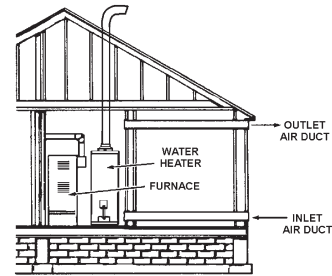

FIGURE 9.
3. When communicating with the outdoors through horizontal ducts, each opening shall have a minimum free area of 1 square inch per 2,000 Btu per hour ($11 \text{ cm}^2/\text{kW}$) of total input rating of all equipment in the enclosure, see Figure 9.
4. When ducts are used, they shall be of the same cross-sectional area as the free area of the openings to which they connect. The minimum short side dimension of rectangular air ducts shall not be less than 3 inches (7.6 cm), see Figure 9.